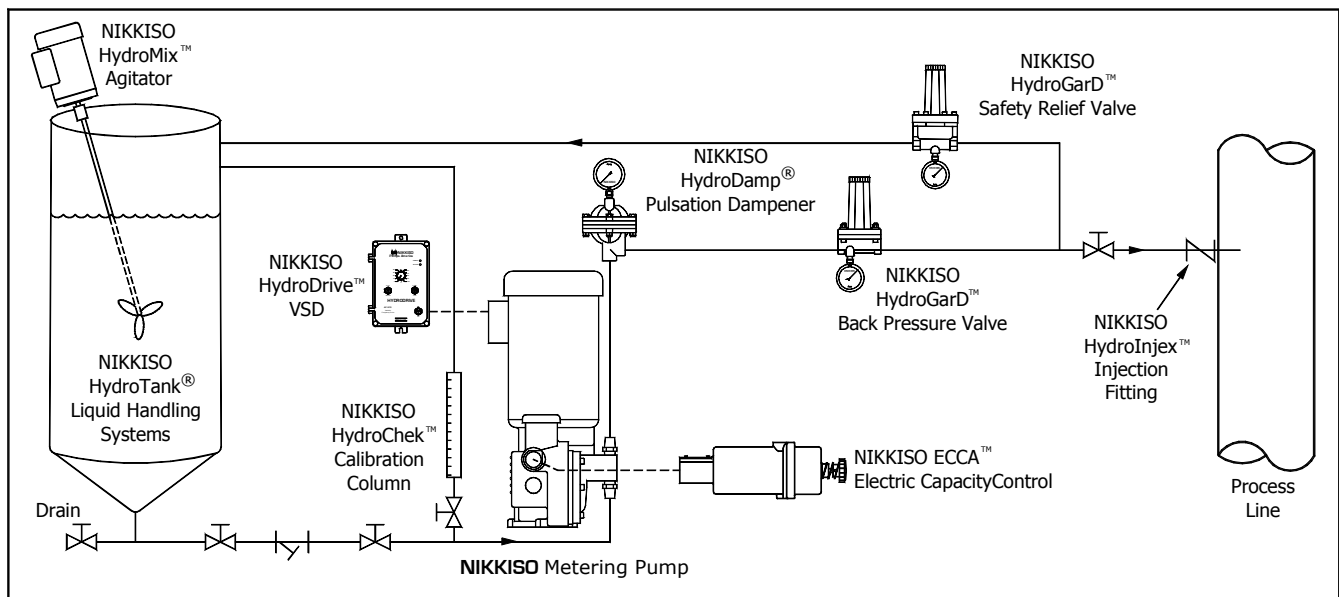

Figure 3. Typical Metering Pump Installation
2. A minimum positive pressure differential of 25 psi between the suction and discharge valves is recommended for proper hydraulic bypass operation and seating of the ball checks. Should normal discharge pressure be less than the suction pressure, an artificial discharge pressure must be created to prevent siphoning. This can be accomplished by the use of a NIKKISO HydroGarD™ back pressure valve installed in the discharge piping as shown in Figure 3 above.
If there are other sources of pressure or hydraulically isolated sections of piping in the system, an external safety relief valve must be installed in the pump discharge line as close to the pump as possible, and BEFORE any isolation valve. The safety relief valve should be piped back to the suction tank or safety drain as shown in Figure 3.
4. Check to be certain that accessory components and fittings have been installed in the proper orientation and sequence as shown in Figure 3.
Pump calibration can be accomplished by measuring the decrease in liquid level pumped from a NIKKISO HydroChek™ calibration column installed in the suction line as shown in Figure 3 on page 3. Follow the calibration instructions provided by the cylinder manufacturer.